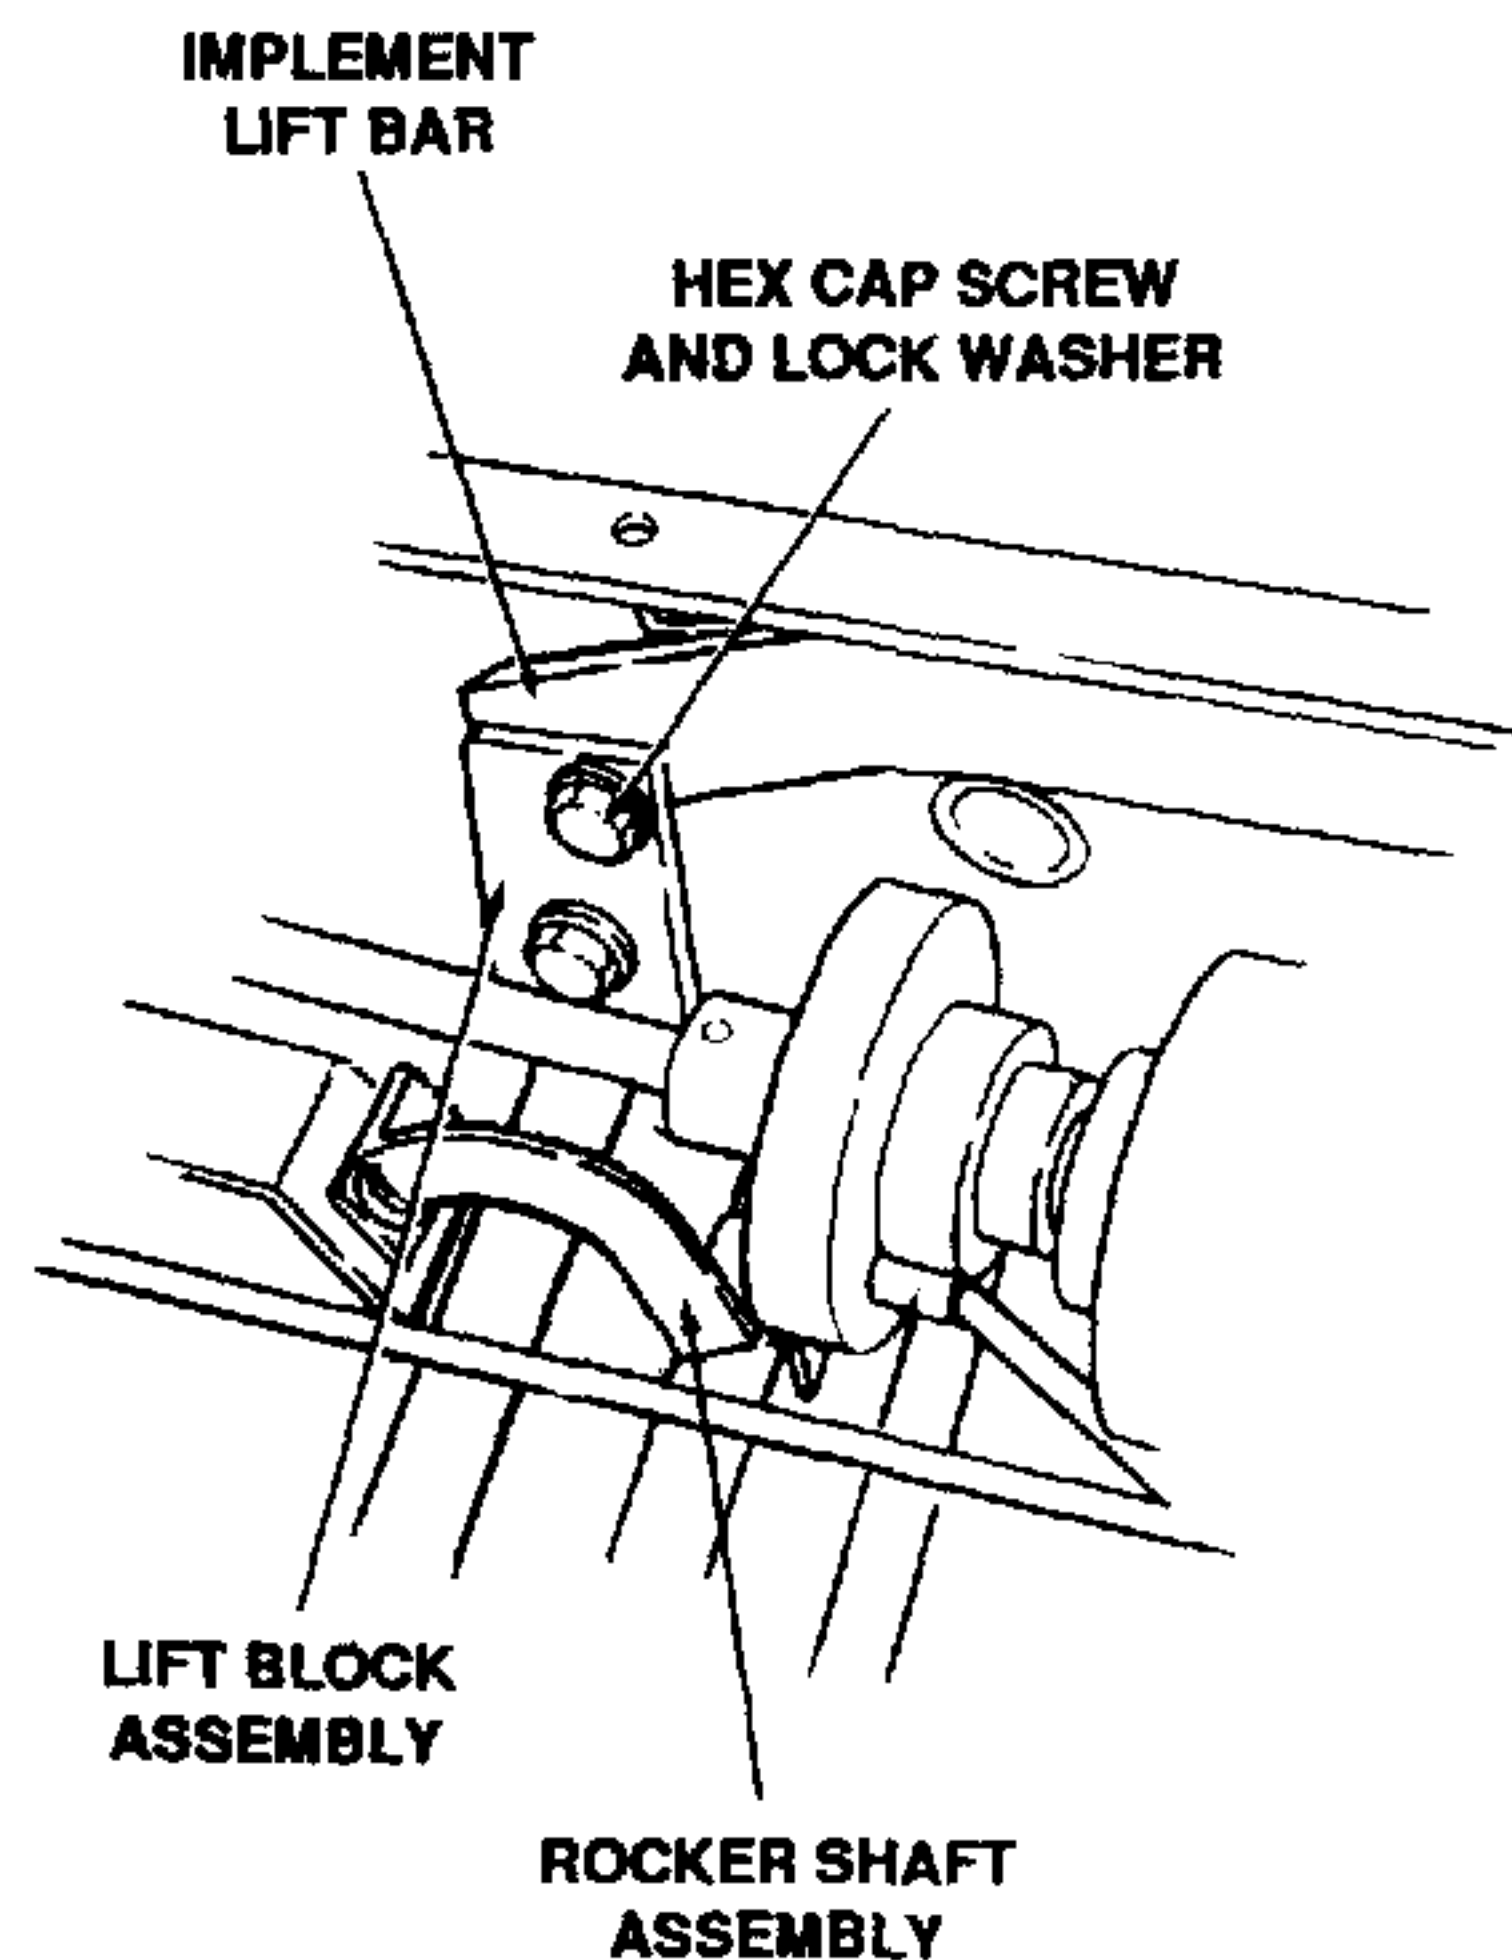

Figure 7-53. Connecting Implement Lift Bar (Model 388 Only).
4. Connect front end of implement lift bar (2, Figure 7-41) as follows (applies to Model 388 only). Align holes in lift block assembly with rocker shaft assembly and secure with two 3/8-16 x .88-inch long hex cap screws (13, Figure 7-40) and 3/8-inch lock washers (2). Refer to Figure 7-53.